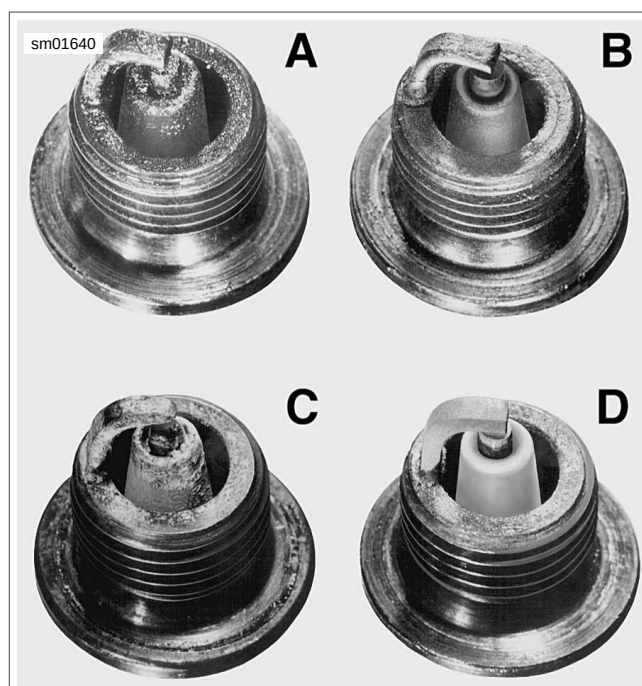

Figure 1-71. Typical Spark Plug Deposits
3. See Figure 1-71. Compare your observations of the plug deposits with the descriptions provided below.